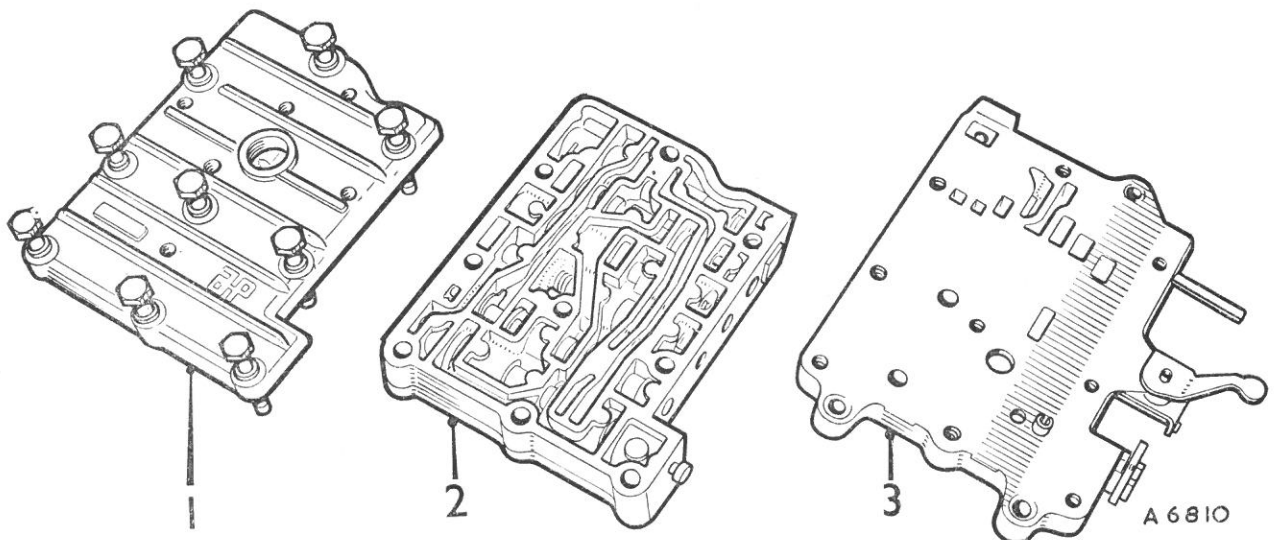

Fig. Fa.25
- (7) Remove the lid and valve chest from the pipe chest (if removed as a unit), see Fig. Fa.25.
- (8) Remove the selector and governor valves.
- (9) Remove the 'C' clips and the plugs. Remove the regulator valve, spring, and reverse booster piston assembly.
- (10) Remove the 'C' clip and the plug. Remove the tow-start valve, spring, and spring retainer.
- (11) Remove the 'C' clips and the plugs. Remove the second and fourth gear valves, spring, and booster piston.